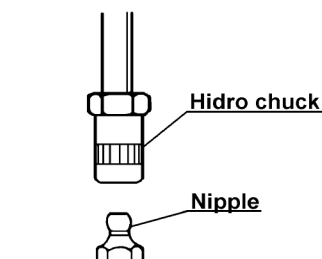

Fig. 4
- 1) Wipe the grease nipple to be used for greasing completely. After that, push the hydro chuck of the high-pressure grease gun against the nipple to perform chucking as vertically as possible. (Fig. 4)